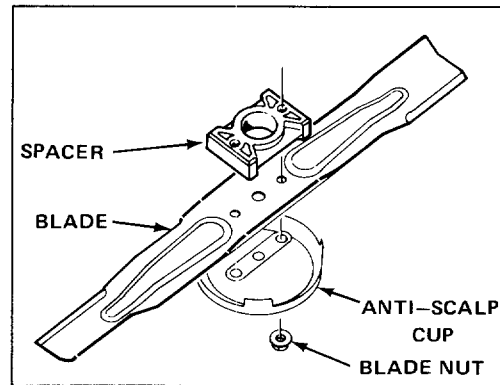

Figure 23
5. REMOVING BLADE—Grasp end of blade using a rag or thickly padded glove. Remove blade nuts, anti-scalp cup, blade, and spacer (Fig. 23).